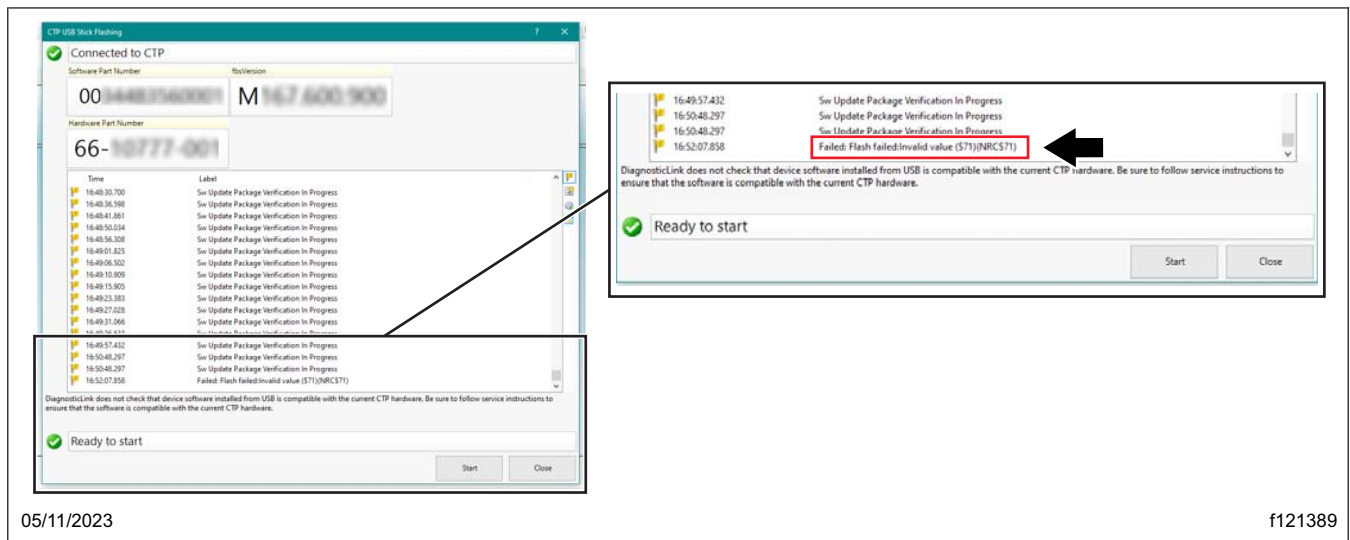

Fig. 32, Flash Failed Message
16. As the flashing process continues, check if the message 'FAILED: FLASH FAILED' is displayed in the 'CTP USB Stick Flashing' window. See **Fig. 32**.